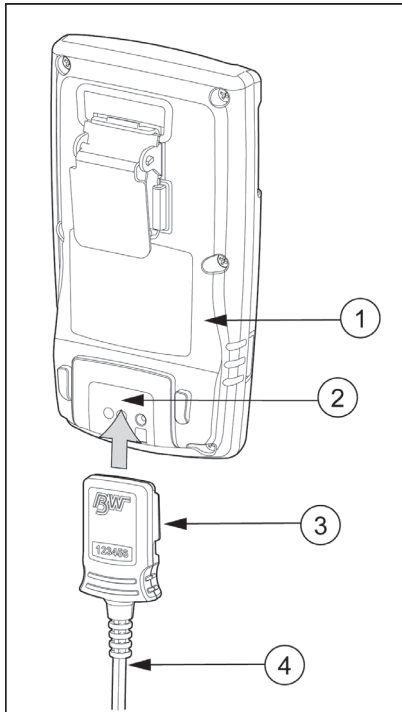

Figure 10. Connecting the Charging Adapter
To charge the battery, refer to Figure 10., Table 12., and the following procedures (1-8).
3. Attach the charging adapter to the charger interface. Refer to Figure 10.